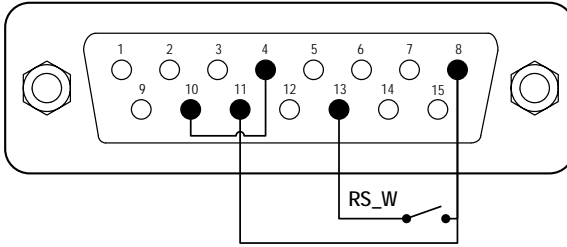
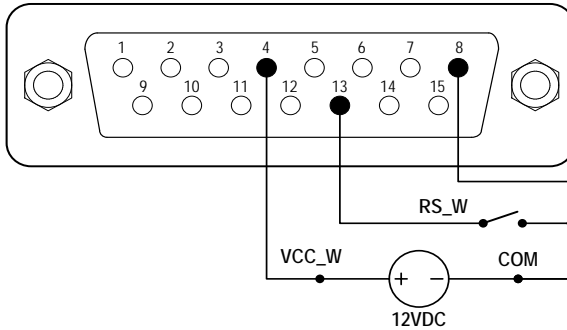

Figure 55. Control Start/Stop with Internal 12V Power Source
Figure 56. Control Start/Stop with External 12V Power Source
- 1) Power pump off. Wire the DB15 connector as shown in Figure 55 or Figure 56, and connect it to the DB15 port on the rear of the pump.